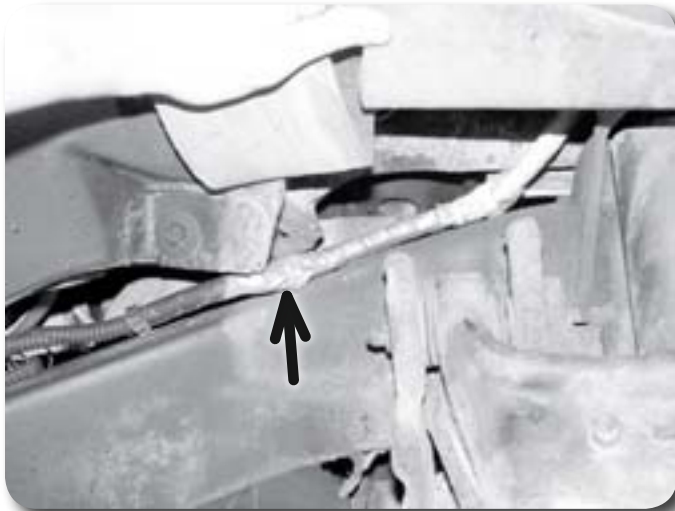

Figure 16
26. Remove the wire harnesses from the plastic clips on the passenger's side frame rail **Figure 16**.